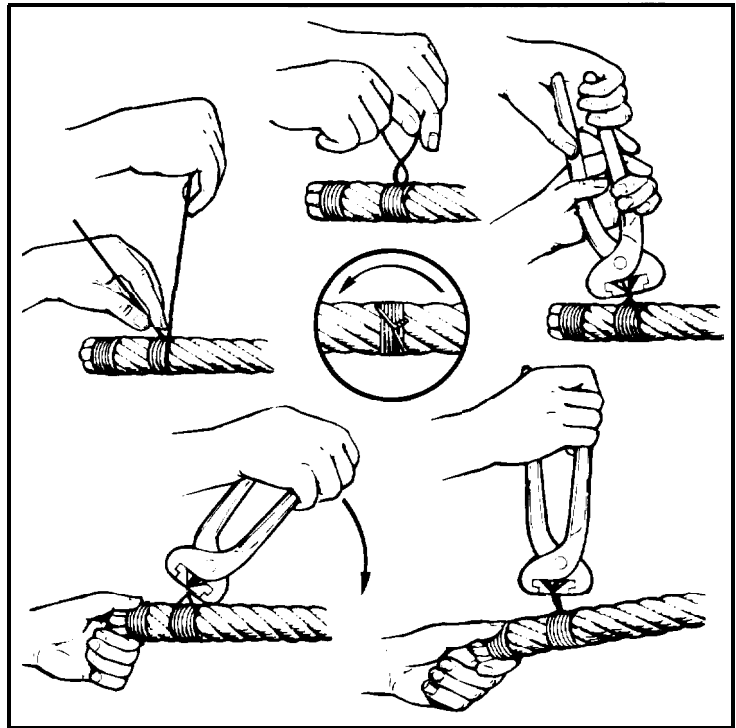

Figure 4-30. *Seizing Wire Rope - Method A*
2. Method B: The second of two accepted methods for placing seizing on wire rope is illustrated in Figure 4-30. The seizing itself should be a soft or annealed wire or strand. The seizing wire diameter and the length of the seize will depend on the diameter of the wire rope. But the length of the seizing should never be less than the diameter of the rope being seized. For preformed ropes, one seizing on each side of the cut is normally sufficient. But for those that are not preformed, a minimum of two seizings is recommended (Figure 4-3 1). Seizings should be spaced six rope diameters apart.